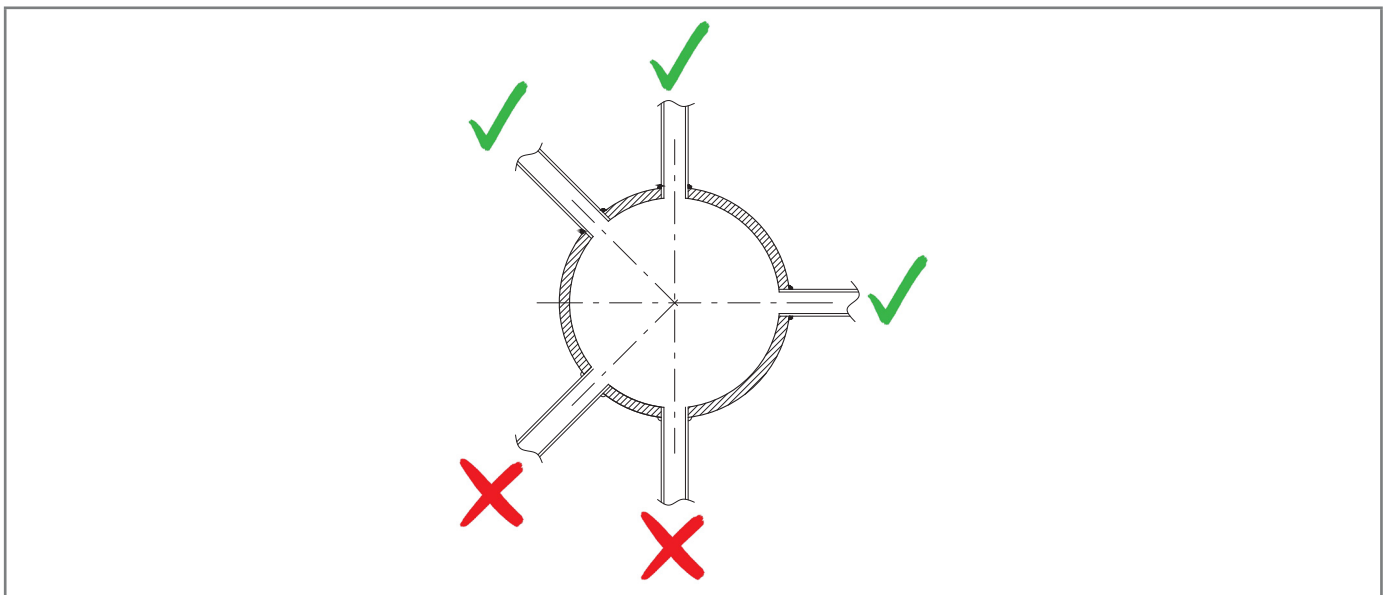

Fig. 6.11. Welded pipe connections
- the connections of the pneumatic connection are always welded to the top or horizontal axis of the pipe itself (refer to Fig. 6.11);